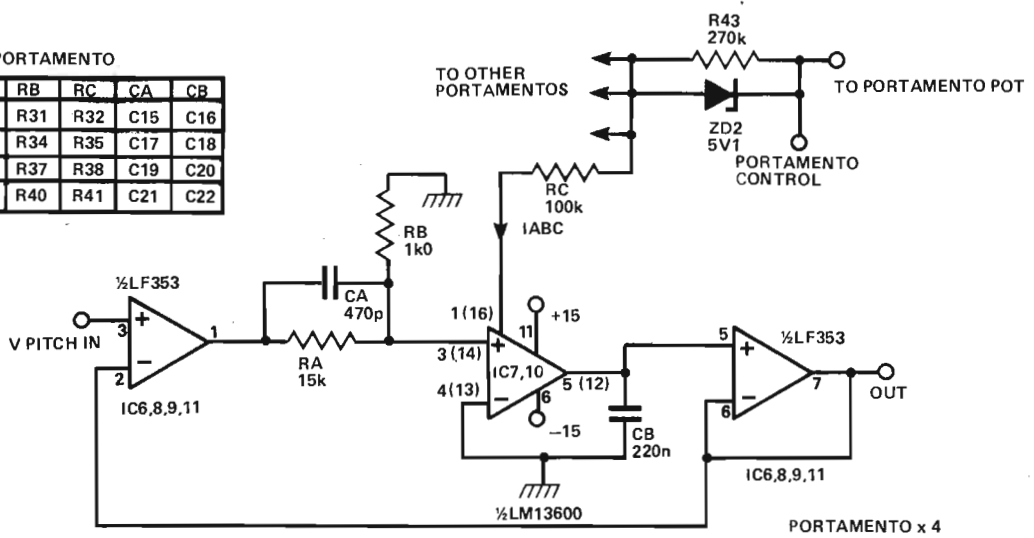

Fig.10 Motherboard portamento, master volume and pitch bend controls.
**P**olyphonic portamento has been provided by using a voltage controlled slew limiter for each pitch voltage (Fig.10,11). The slew rate is controlled by the  $I_{ABC}$  current and the timing capacitor  $C_B$ .
The audio outputs from all voices are mixed into IC13, Fig.10. This is a voltage controlled amplifier. With the master volume control anticlockwise the output will be fully off.